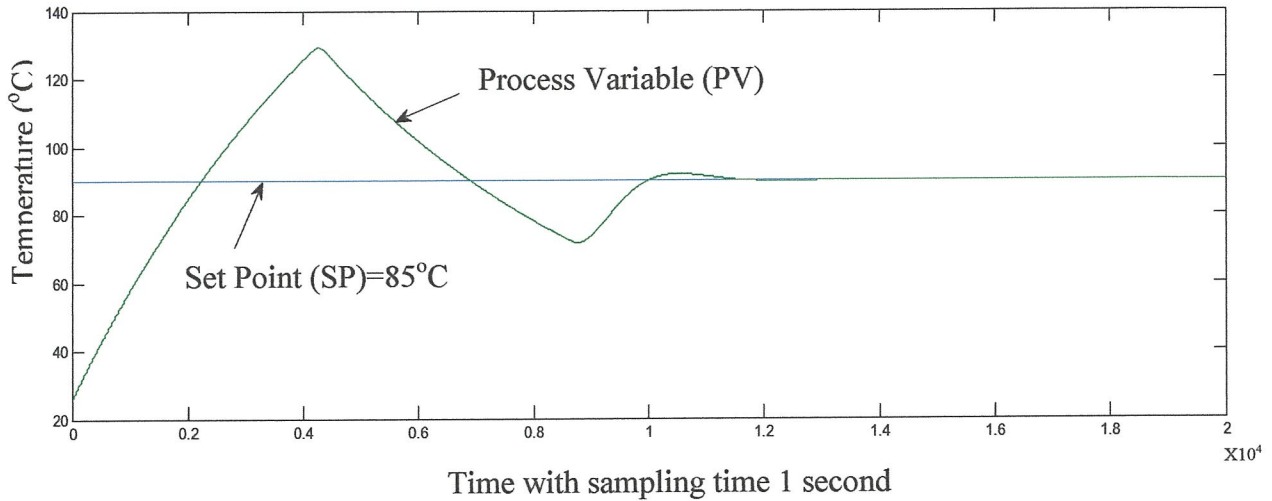

Figure Q4(a)
- Q4** (a) The Proportional Integral Derivative (PID) controller is used for regulating temperature of palm oil bleaching process and the resulted response of the temperature is shown in **Figure Q4(a)**. As engineer, estimate the percentages overshoot ($\% \mu(s)$) and settling time (T_s) based on 2% band for the response as shown in **Figure Q4(a)**. (10 marks)
- (b) Haziq Sdn. Bhd. has proposed **two (2)** set tuning parameter of Proportional Integral Derivative (PID) controller namely Tune A and Tune B for controlling temperature of continuous Jacket Reactor in oil and gas industries handled by Zaza Holding. Haziq Sdn. Bhd. has attached a steady state data for both of PID tuning (Tune A and Tune B) in controlling temperature of continuous Jacket Reactor and the data are shown in **Table Q4(b)(i)** and **Table Q4(b)(ii)** respectively. Investigate the suitable controller by using Mean Square Error (MSE) analysis towards achieving small steady state error while controlling the temperature of continuous Jacket Reactor. (11 marks)